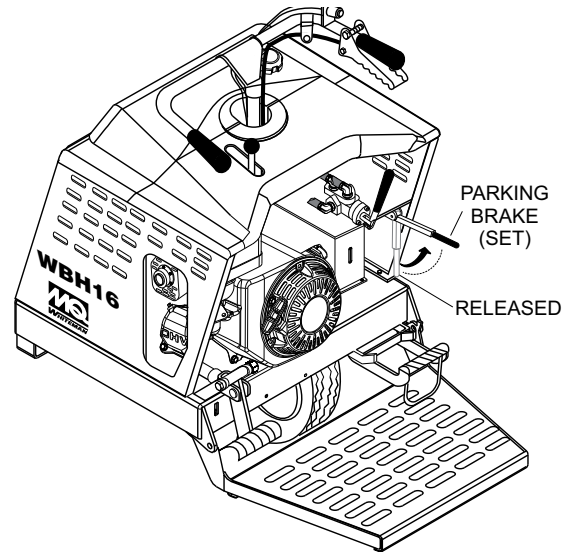

Figure 19. Parking Brake Lever
1. Engage the parking brake lever (Figure 19) and attempt to rock the buggy back and forth. If the wheels turn during the rocking motion, adjust the brakes as outlined in the maintenance section of this manual.
2. Engage the parking brake (Figure 19).